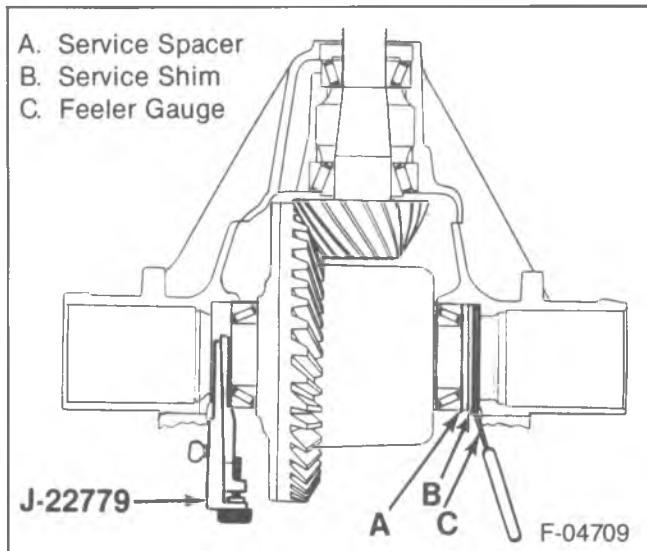

Figure 38—Measuring Side Bearing Shim Requirements
5. Move the tool back and forth in the bore while turning the adjusting nut to the right until a noticeable drag is produced (figure 38).
6. Install a service spacer (9) and a service shim (9) between the right bearing cup and the axle housing.